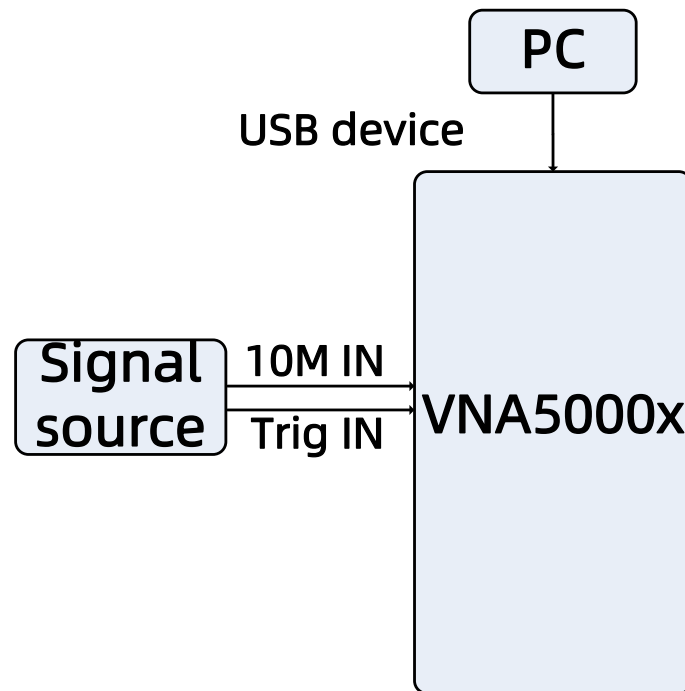

Figure 6-10 Equipment setup 2
10M In port on the rear panel, as shown in Figure 6-10
TRIG In port on the rear panel, as shown in Figure 6-10
1. Power off the analyzer and install a normal OCXO circuit board, as shown in Figure 6-10